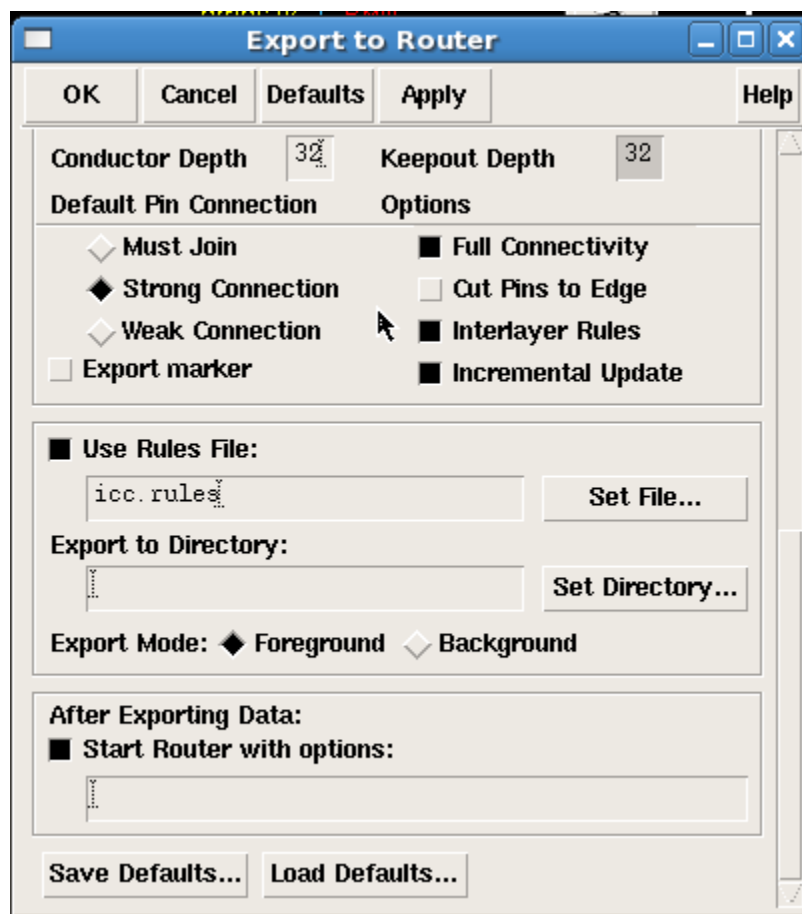

Fig.19
2. Specify the ICC rules and select the router to "Virtuoso custom router" in the popup window to initiate the VCR (Fig. 19).